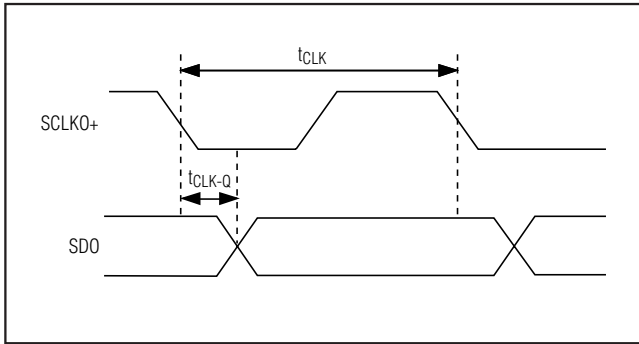

Figure 3. Definition of Clock-to-Q Delay
**Note 9:** Relative to the falling edge of the SCLKO+ (Figure 3).